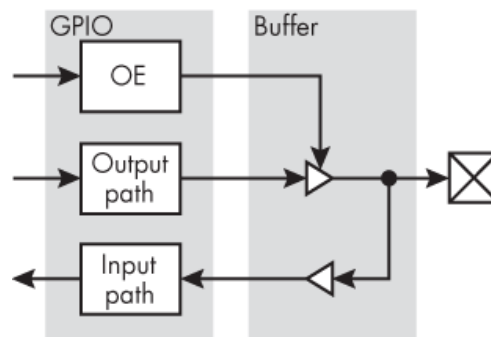
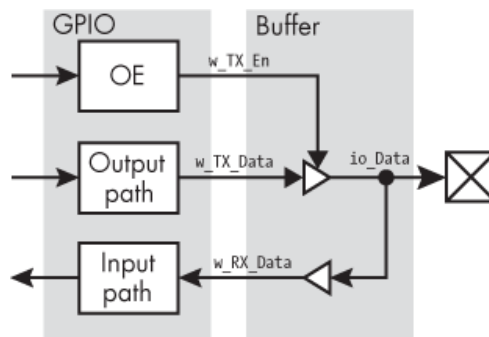

Figure 11-1: A simplified GPIO block diagram
Figure 11-2: A labeled bidirectional interface
GPIO pins interface with an FPGA through *buffers*, electronic circuit elements that isolate their input from their output. These buffers are what allow you to configure some pins as inputs and others as outputs. As you'll see soon, they even allow you to toggle a pin between input and output while the FPGA is running. Figure 11-1 shows a simplified block diagram of a GPIO pin interface on an Intel FPGA, to illustrate how a buffer serves as an intermediary between the pin and the internal FPGA logic.
Let's look at how to code a bidirectional pin using Verilog or VHDL. As you examine this code, refer to Figure 11-2 to see how the signals in the code match the block diagram from Figure 11-1:
We declare the bidirectional pin (`io_Data`) with the keyword `inout` in both Verilog and VHDL ❶. At this point we can imagine that we're at the pin, as indicated by the label `io_Data` in Figure 11-2. We'll need to map this signal to one of the FPGA's pins in our physical constraints file. For the input functionality, we simply use an assignment to drive `w_RX_Data` with the data from the pin ❷. On the output side, we selectively enable the output buffer using the signal `w_TX_En` ❸. We use the ternary operator in Verilog or a conditional assignment in VHDL. The data driven onto `io_Data` will either be `w_TX_Data` or high impedance (indicated by `1'bZ` in Verilog or `'Z'` in VHDL), depending on the state of the output enable signal (`w_TX_En`). This code pattern is very common for bidirectional data. Synthesis tools are smart enough to recognize it and infer an I/O buffer.